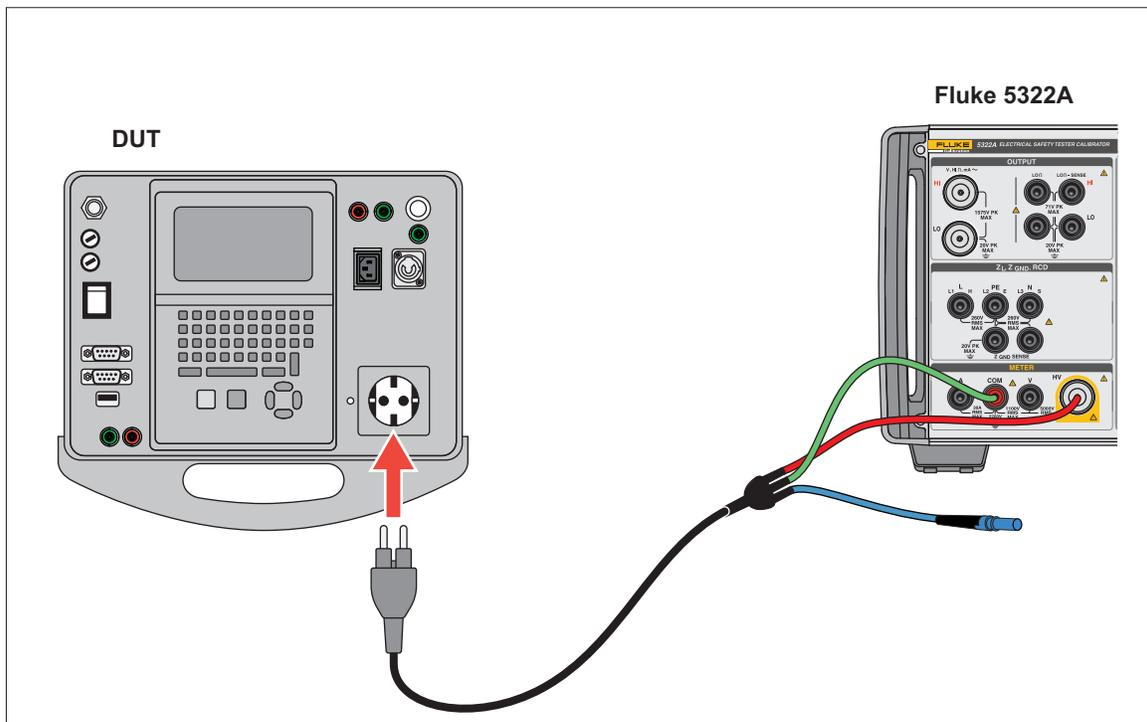

Figure 57. Class I Flash Test Voltage Measurement
3. Connect the Product and DUT as in Figures 57.